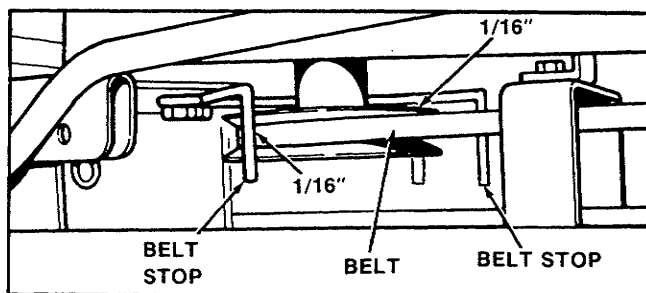

Figure 14. PTO Pulley Belt Stops
1. With the PTO engaged, measure the gap between each PTO pulley belt stop and flat side of belt (figure 14). The gap should be 1/16 inch (1.5 mm). (The belt stops are also shown in figure 25 on page 15.) If not, adjust as follows.